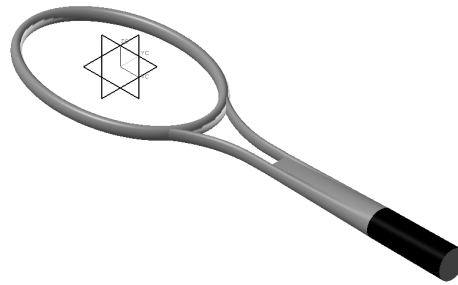
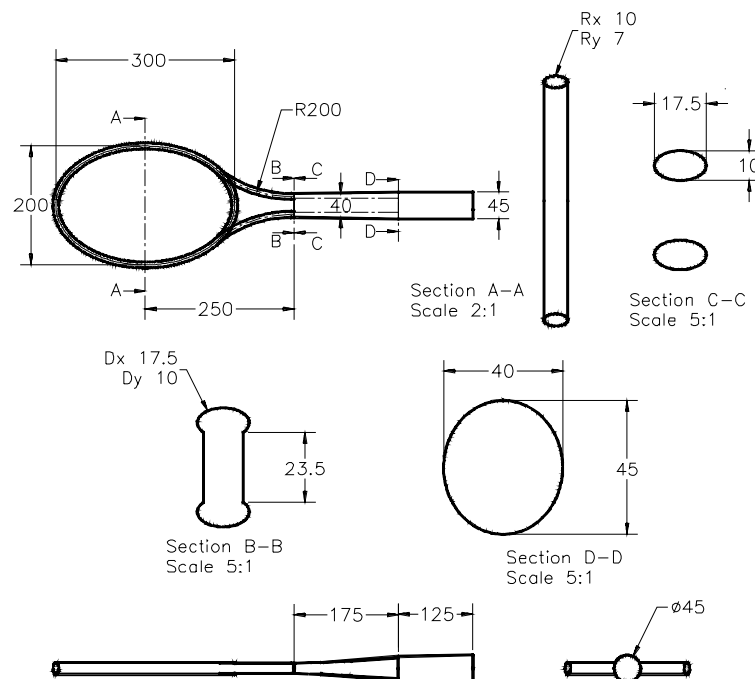
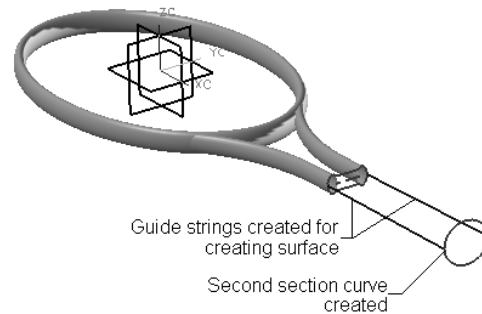

Figure 11-103 The isometric view of the surface model
Figure 11-104 The drawing views and dimensions of the surface model
Figure 11-113 The second section curve and the guide strings created to create surface
In this tutorial, you will create the surface model shown in Figure 11-103. The drawing views and the dimensions of the surface model are shown in Figure 11-104. After creating the model, save it with the name given below.
5. Select the datum plane created as the sketching plane and create the second primary string, as shown in Figure 11-113. The dimensions can be obtained from Figure 11-104.
6. Select the offset datum plane and create the guide strings, as shown in Figure 11-113.